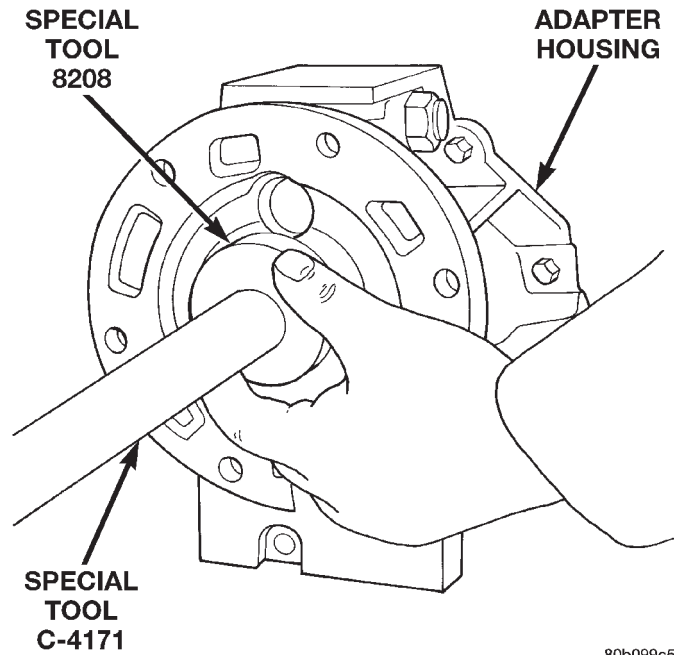

Fig. 16 Install Adapter Housing Seal
- (1) Clean seal bore of adapter housing of any residual sealer material from original seal.
- (2) Using Tool Handle C-4171 and Seal Installer 8208, install new seal so that the seal is located 0 ± 0.2 mm (0 ± 0.008 in.) to the seal bore face of adapter housing (Fig. 16).
- (3) Install transfer case.
- (4) Check and add fluid to transmission as necessary. Refer to the Recommended Lubricant section for proper fluid requirements.
- (5) Lower vehicle.